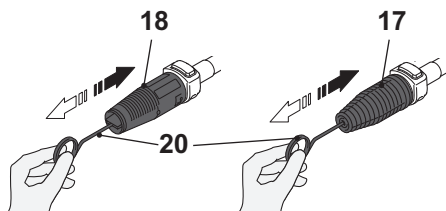

Fig. 24
Remove any dirt deposits from the nozzle (17/18) hole using the cleaning needle (20) (Fig. 24).